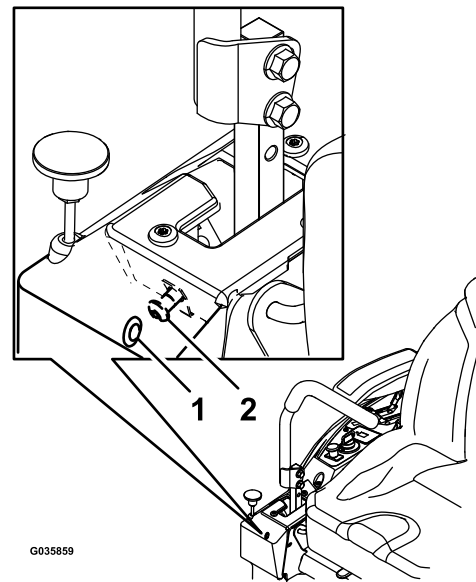

**Figure 57**
**Note:** The upper hoop of the roll bar may need to be pushed forward or pulled rearward to fully engage both knobs (Figure 56 and Figure 57).